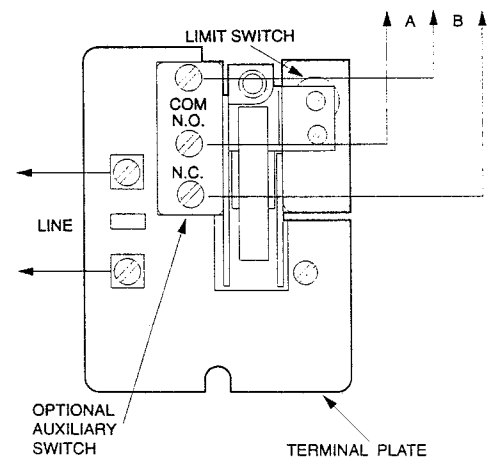

Figure 3. Two-Wire Circuit with Auxiliary Switch
1. Follow equipment manufacturer's wiring instructions. Typical wiring connections are shown in Figures 3 and 4.